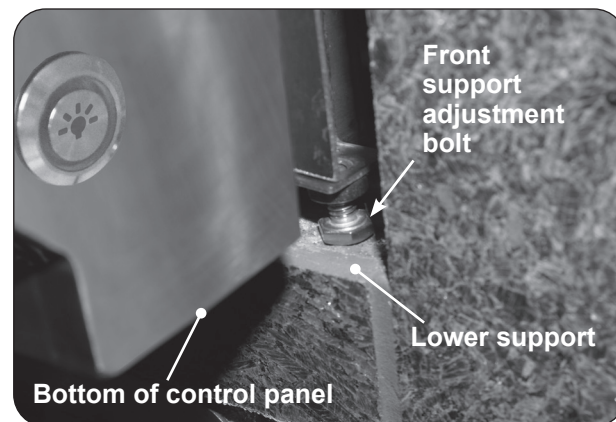

Fig. 25-3 Front support adjustment bolts
3. Rotate the front support adjustment bolts (up or down) until the grill hanger rests flush on the countertop, AND, the adjustment bolts are touching the supporting structure found at the bottom of the cutout (lower support). Use a 7/16" open-end wrench as needed. See Fig. 25-3.